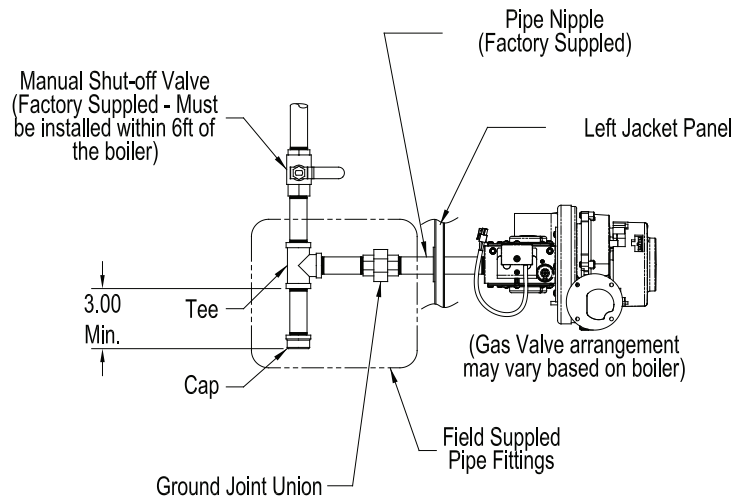

Figure 24: Recommended Gas Piping
- Install sediment trap, ground-joint union and manual shut-off valve upstream of mounted factory supplied manual shut-off valve. See Figure 24 “Recommended Gas Piping”.
2. **Individual module (boiler) recommended gas piping detail** - see Figure 24.